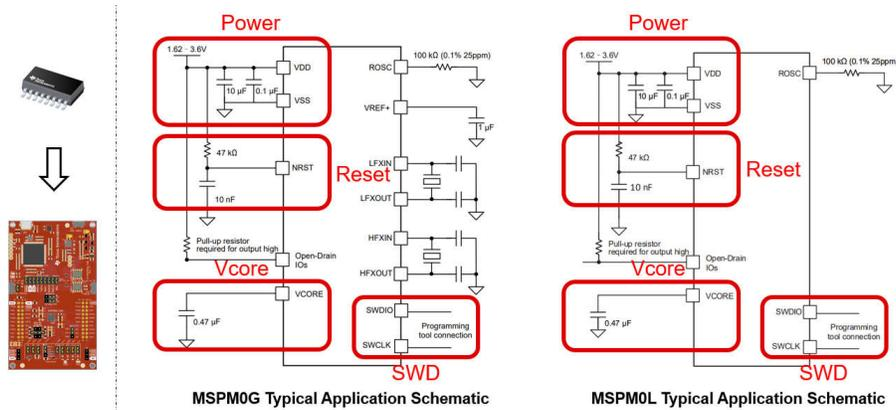

Figure 2-36. MSPM0 Minimum System
- As for MSPM0 hardware design into your own board. Figure 2-36 shows a sample minimal system design.